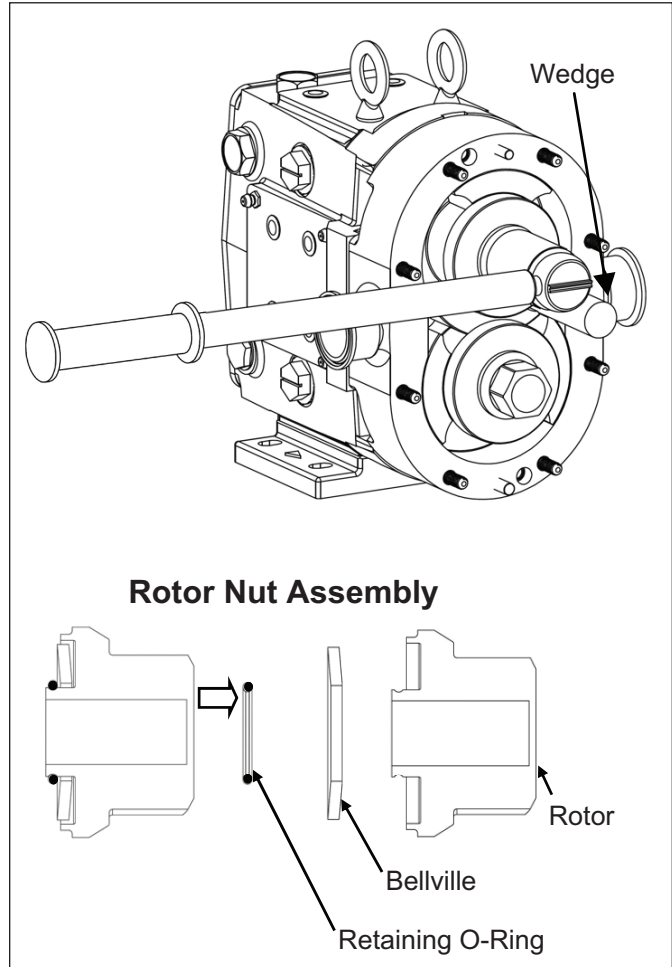

Figure 24. Rotor Removal
- 2. Remove the rotor nut assembly using the appropriate size wrench and a non-metallic wedge to keep the rotors from moving (Figure 24). Unthread each nut and disassembly the nut assembly (rotor nut, Bellville washer, and retaining o-rings).